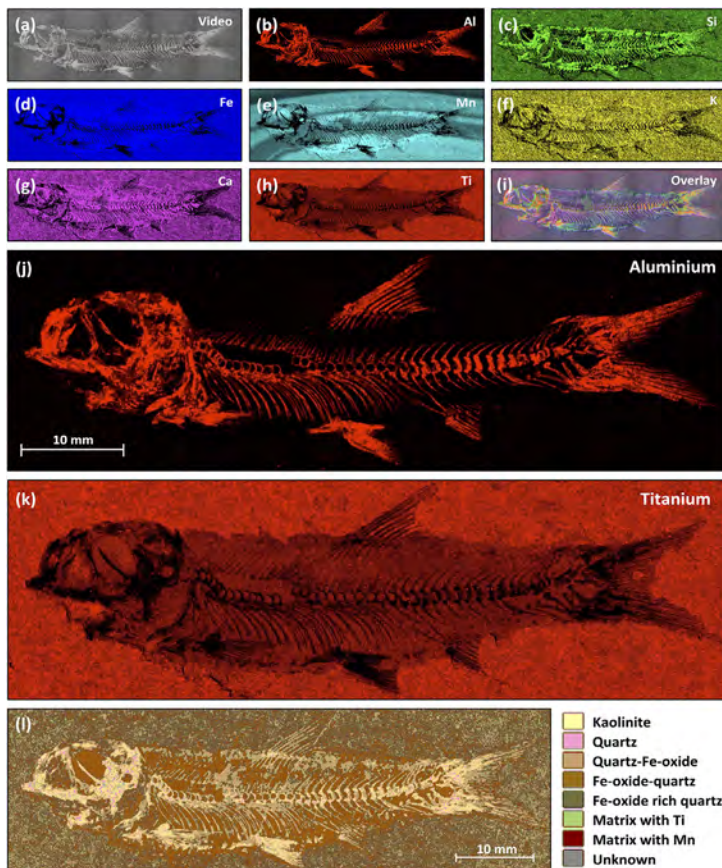
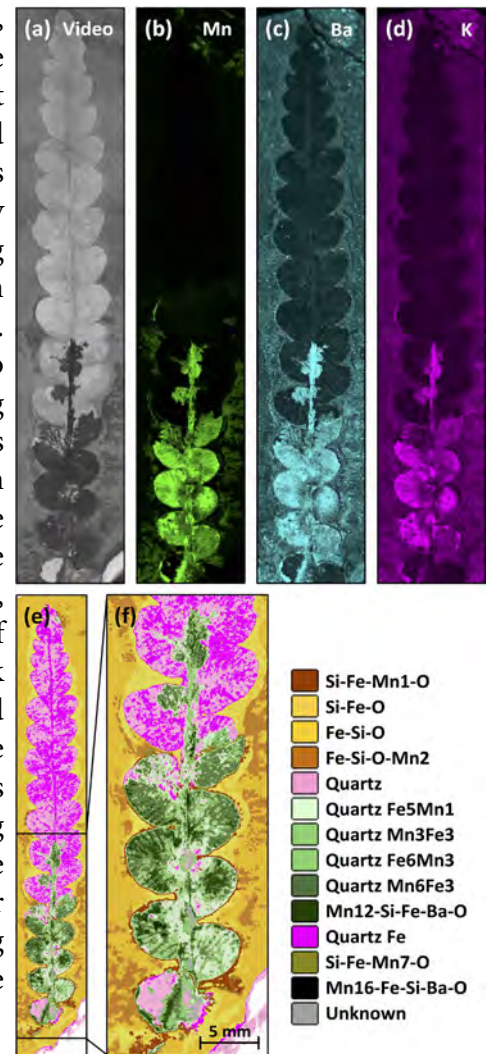

Figure 1. Elemental and mineralogical maps of a Cavenderichthys fish.
Figure 2. Elemental and mineralogical maps of a Rintoulia leaf.
The M4 tornado revealed that the fish were beautifully imaged in aluminium and silicon, with the mineralogical maps revealing intergrown kaolinite and quartz (Figure 1).
In hand specimen, these two white minerals were not readily distinguished but in some fossils they were clearly separated allowing easy identification of fine fossil parts. In places, superb liesegang banding was revealed in maps of Mn concentration (Figure 1). The plant fossils (Figure 2) were different, consisting only of quartz and the black mineral was revealed (as suspected) to be manganese oxides precipitating along the layers in the rock, in places either coating or replacing the quartz (Figure 2).
Figure 1: XRD patterns from an inXitu Terra portable diffractometer showing the mineralogical differences between efflorescences from covered (A) and exposed (B) condenser columns.
Figure 2: XRD patterns from an inXitu Terra portable diffractometer showing the mineralogical differences between the bulk woodsreef tailings (A) and hard surface crusts (B).
Figure 1. XRD patterns for two soil samples ('OS1' and 'KROR') unheated and after heat treatments show the effects of fire on the mineralogy of the B horizon coatings.